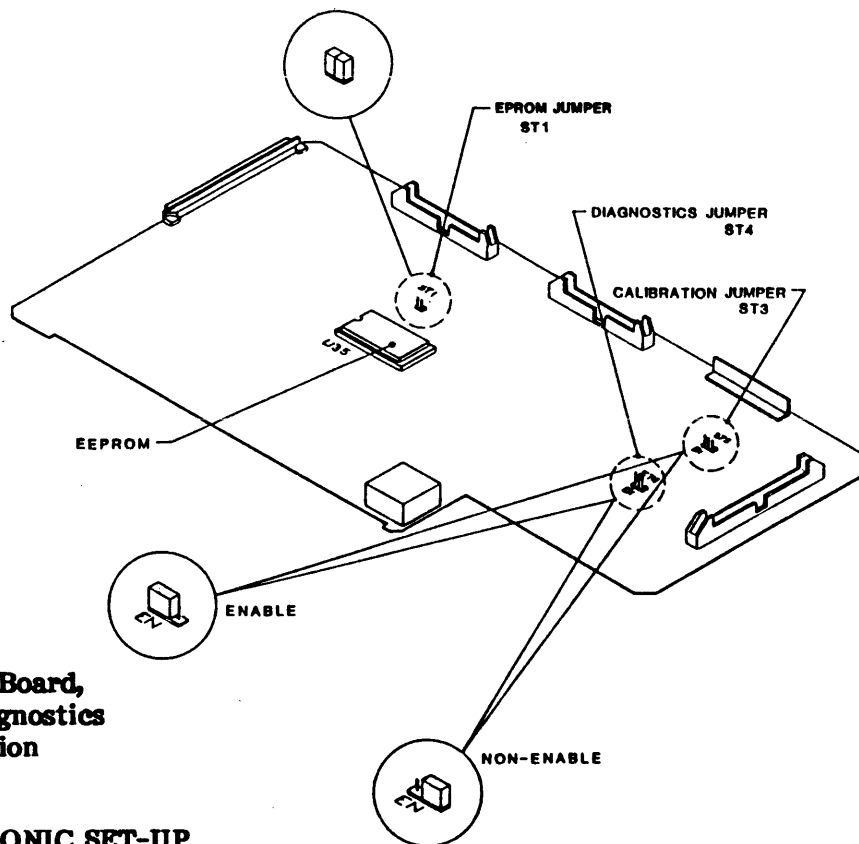

Figure 5-31.
3. On Drive Electronics Board (Figure 5-31), move the Calibration Jumper to ENABLE Position.